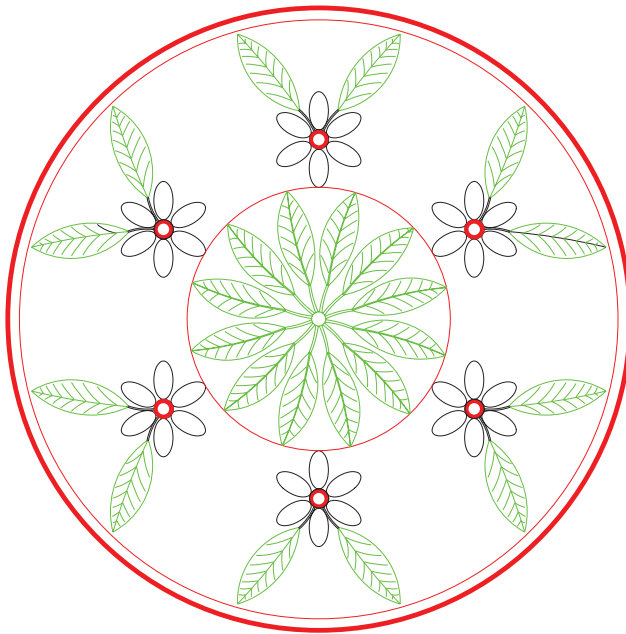

Fig. 14.6 Example – DXF file – drawing to be saved as a DXF file
EXAMPLE – DXF FILE (FIG. 14.6)
1. Open a drawing in AutoCAD. This example is shown in Fig. 14.6.